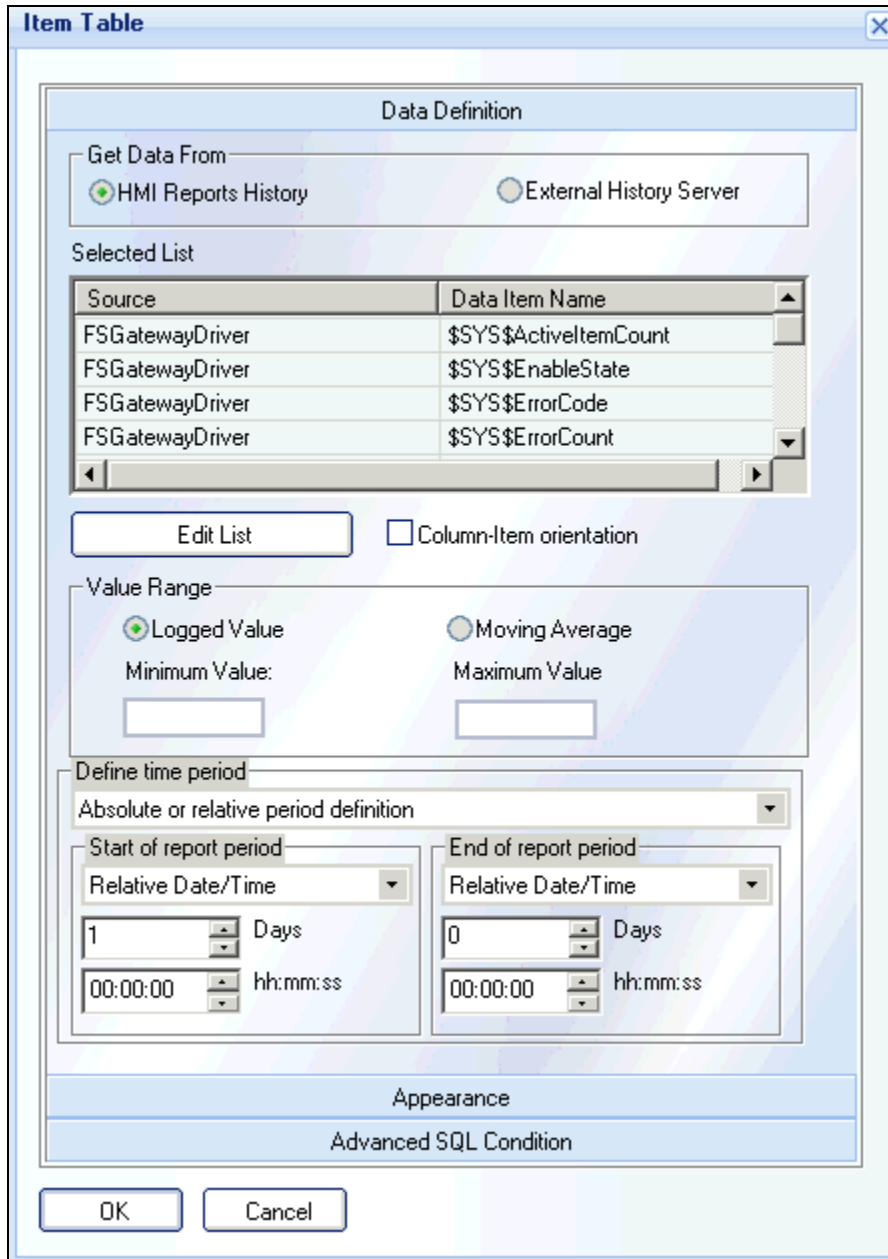

FIGURE 5: ADD ITEM TABLE TO THE REPORT CANVAS
3. Add an **Item Table** to the canvas. The **Item Table** window appears (Figure 5 below).